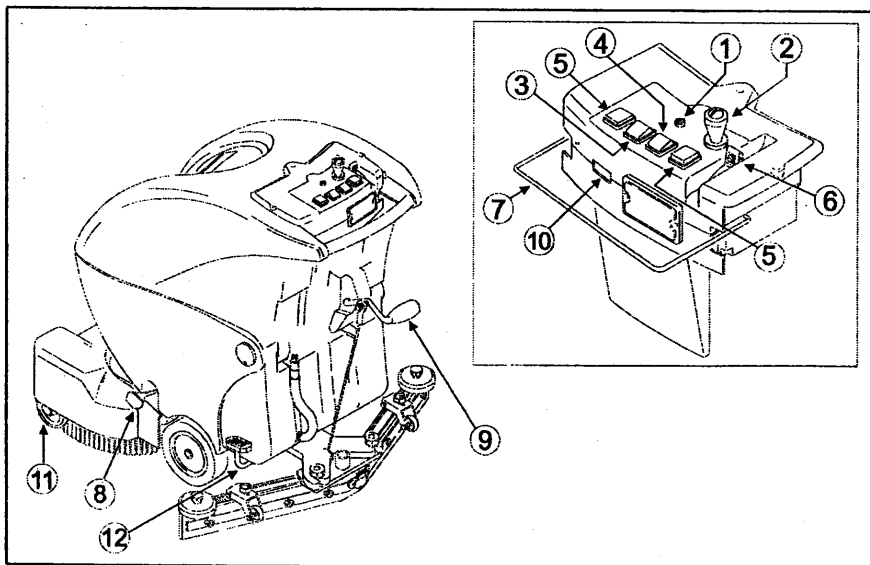

Fig. 6
With reference to fig. 6 the machine has the following controls and leds:
Feed the machine: insert and operate the key to release the emergency button (fig. 6, ref. 2) and press "1" on the brush switch (fig. 6, ref. 3).
To install the brush, lay it on the floor before the machine, stand at the rear of the scrubber and push on the handle in order to lift its front part and to lower the carriage small wheel (fig. 6, ref. 11). Go ahead (holding down the handle) and centre the flange on the brush. Lift the carriage small wheel (fig. 6, ref. 11) pressing on the proper pedal (fig. 6, ref. 12), resting then the machine on the brush. Operate the brush control lever (fig. 6, ref. 7) for short instants: the brush is "screwed" in the hub automatically. If the operation is not successful, press on the handle again and repeat the centering operation pressing the brush control lever.
- check that the cock control lever (fig. 6, ref. 6) is at the position "off";
- insert and operate the key to release the emergency button (fig. 6, ref. 2), and make all the machine functions active: the power supply led lights up (fig. 6, ref. 1);
- press "1" on the main switch (fig. 6, ref. 2) to enable all the machine functions;
- move the cock lever (fig. 6, ref. 6) to the position of minimum flow of solution: the detergent solution begins to reach the brush;
- lower the squeegee by means of the proper lever (fig. 6, ref. 9);
- press "1" on the brush switch (fig. 6, ref. 3) to enable the function "Brush";
- press "1" on the suction unit switch (fig. 6, ref. 4) to start the suction motor;
- press the brush lever (fig. 6, ref. 7) beneath the handle: the brush motor starts. The brush turns and spreads the solution on the floor.
- while working, check the quality of washing and, if necessary, adjust the flow of solution sent to the brush (by turning the lever (fig. 6, ref.6)).
- **Models with battery:** if the warning led (fig. 6, ref. 1) starts flashing, it means that the storage batteries are getting flat. Therefore, it is necessary to recharge them, as there is no device blocking the total running of the machine; if you keep on working, the batteries could become damaged irreparably.
If the brush control lever (fig. 6, ref. 7) is operated intermittent for a long time, the brush motor could become overheated and therefore damaged. Moreover, in machines with cable the motor needs 2-3 seconds of rest to get started without strain. For this reason limit the "lever shots" to the sole events when they are strictly necessary.
- move the cock lever (fig. 6, ref. 6) to the position "CLOSED";
- release the brush lever (fig. 6, ref. 7) placed beneath the handle: the brush motor switches off and the machine stops;
- press "0" on the brush switch (fig. 6, ref. 3) to disable the function "Brush";
- raising the lever (fig. 6, ref. 9), lift the scrubber from the floor to prevent the drying